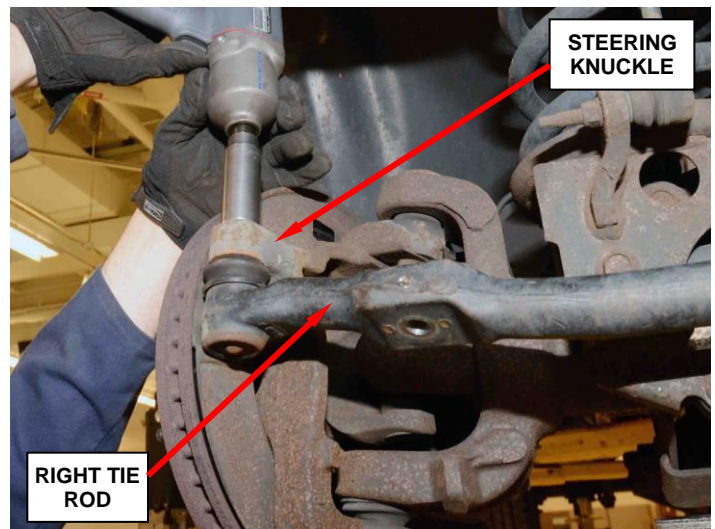

Figure 6 – Right Tie Rod Nut
9. Remove and discard the right tie rod nut (Figure 6).